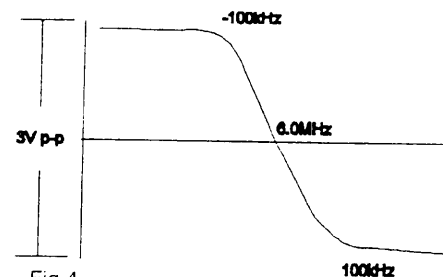

Fig 4.
- 5: Adjust T104 and T102 to obtain the waveform as in fig. 4.